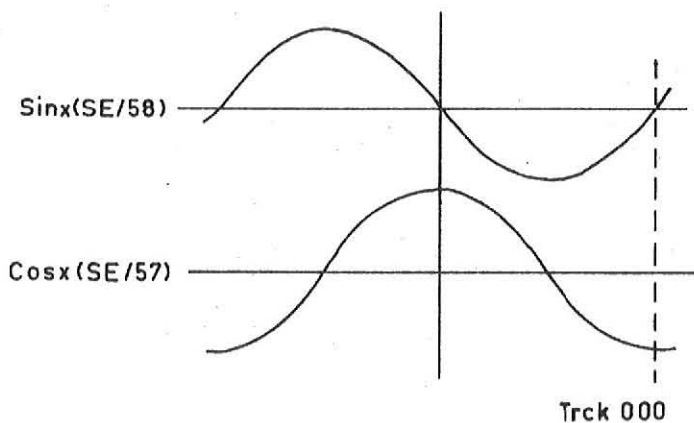

Figure 7-3
3.2 Y-DIRECTION MEANDER BLOCK (Figure 7-3, 7-4).